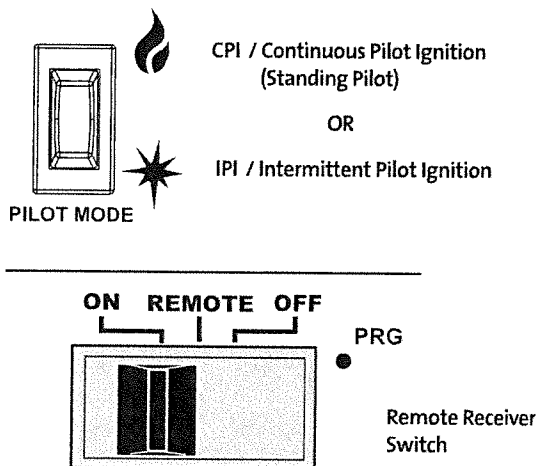

Figure 6.34 Initial system settings.
2. **Slide the Remote Receiver switch to the ON position**. The ignitor will generate spark in either IPI or CPI pilot modes. See fig. 6.34.